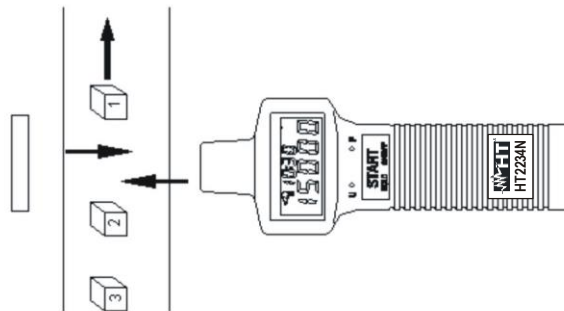

Fig. 6: events counter with Emitting unit
1. Place, if necessary, a piece of reflective tape on external surface which should be interested by red LED and place the meter like shown in Fig. 6: